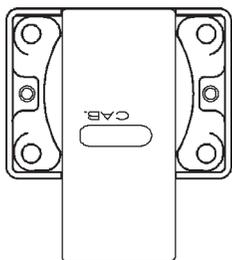

Fig. 3a - Back of drawer lock with bolt installed.
Step 5 - Install the bolt so that the "CAB" side is facing you. The bolt throw should be beyond the bottom of the lock as indicated in *Fig. 3a*.